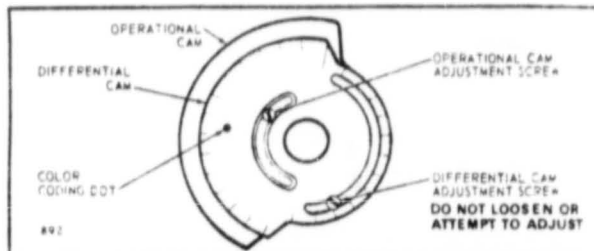

FIG. 17—SWITCH CAM MAY BE ADJUSTED TO OPERATE THE SWITCH DURING ANY PART OF THE STROKE.
3. With the motor in the normal position, loosen the adjustment screw for the operational cam. See Fig. 17. Using the 10-degree marks on the cam and a fixed point such as the cam roller for a guide, rotate the cams clockwise (counterclockwise for normally open motors) through an arc equal to the number of degrees the motor should travel before switch operates. Tighten the operational cam adjustment screw.